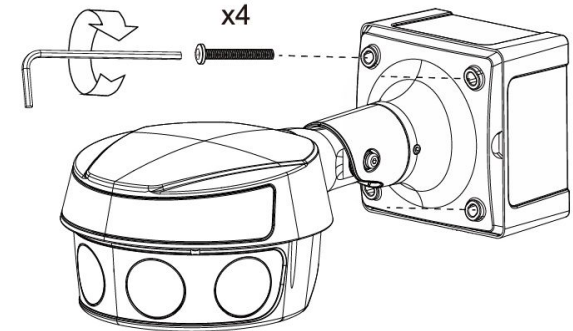

Figure 1-3
Step 3 Make your cable connection. Seat the camera against the junction box, while ensuring that cables are pinched, then tighten the mounting screws into the screw holes until they are held firmly. See Figure 1-3.